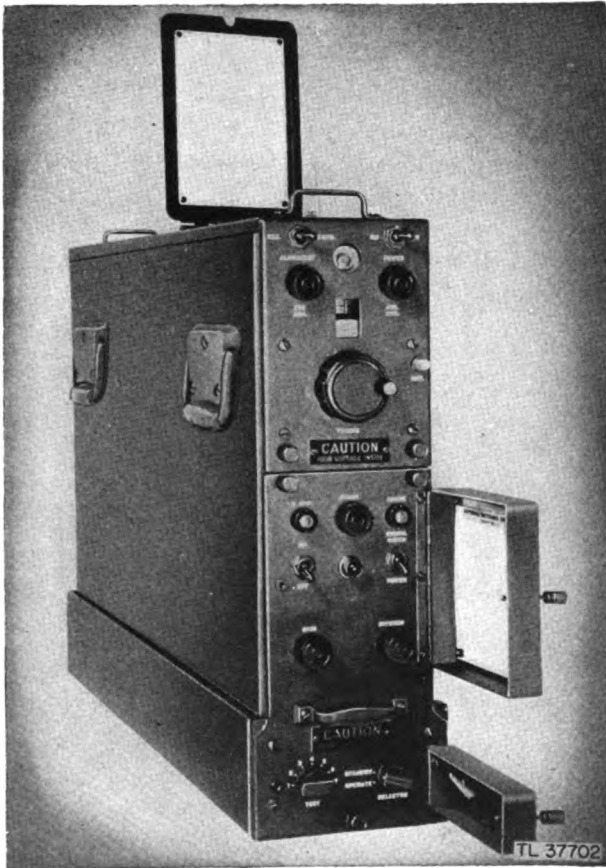

Figure 23. Interconnector—front panel.
(5) Inspect the bodies of all resistors and capacitors with pig tail connections for excessive discoloration (pars. 23 and 24).
(6) Inspect all connections for proper soldering and tightness.
(7) Tighten all mountings, mountings screws, and tube sockets where necessary.
(8) Clean the under side of the interconnector when necessary.
**ITCL. FRONT PANEL OF INTERCONNECTOR (fig. 23).**